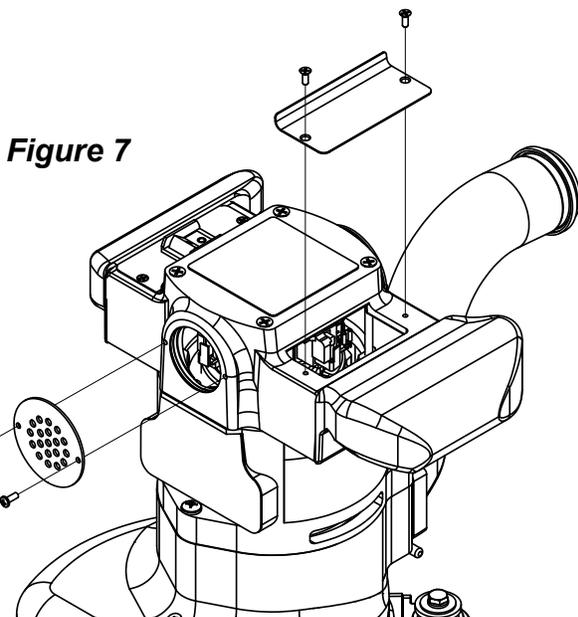
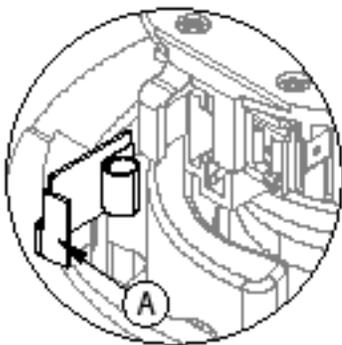

Figure 7
Figure 8
Inspect all four brushes every 6 months or 250 hours. Access to the brushes is gained through the front and back motor vent plugs and under both motor covers (Figure 7). Press tab (A) on spring clip assembly in, rotate, then remove (Figure 8). Use needle-nose pliers to disconnect the shunt wire. If any brush has worn to 3/8" in length or shorter, replace the entire set.